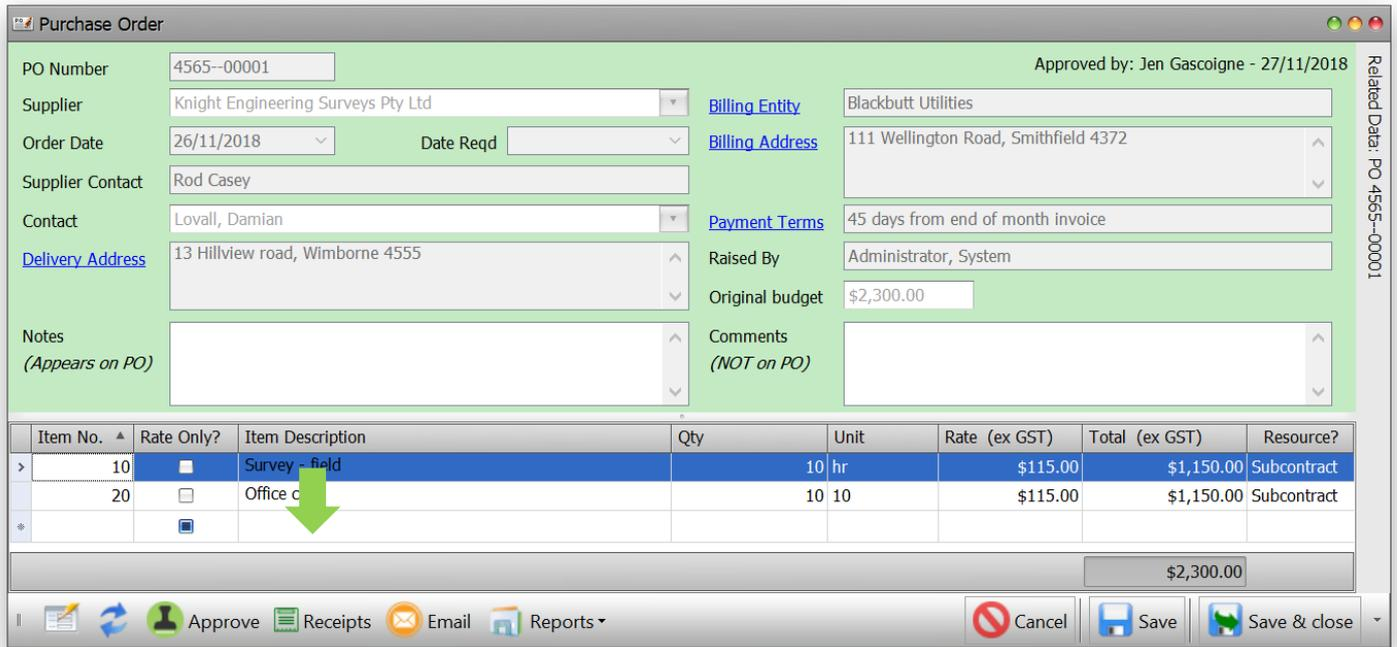

Figure 62 Purchase order receipt button
3. click on the Receipts button at the bottom of the screen as in Figure 62 below.